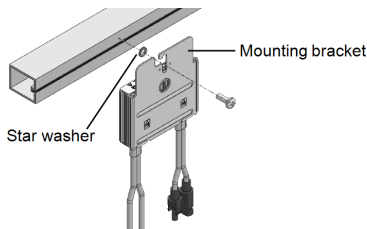

Figure 5: Power optimizer installation and grounding using a star washer
1. Determine the power optimizer mounting location and use the power optimizer mounting brackets to attach the power optimizer to the support structure (See Figure 5). For frame-mounted power optimizers follow the instructions supplied with the optimizers, or refer to https://www.solaredge.com/sites/default/files/installing_frame_mounted_power_optimizers.pdf.
- **For mounting on a grounded metal rail:** Use the provided 5/16" stainless steel grounding star washer between the railing and the flat side of the mounting bracket. The grounding washer should break through the anodize coating of the railing to ensure low resistive connection. Apply torque of 9.5 N*m / 7 lb*ft. See Figure 5.